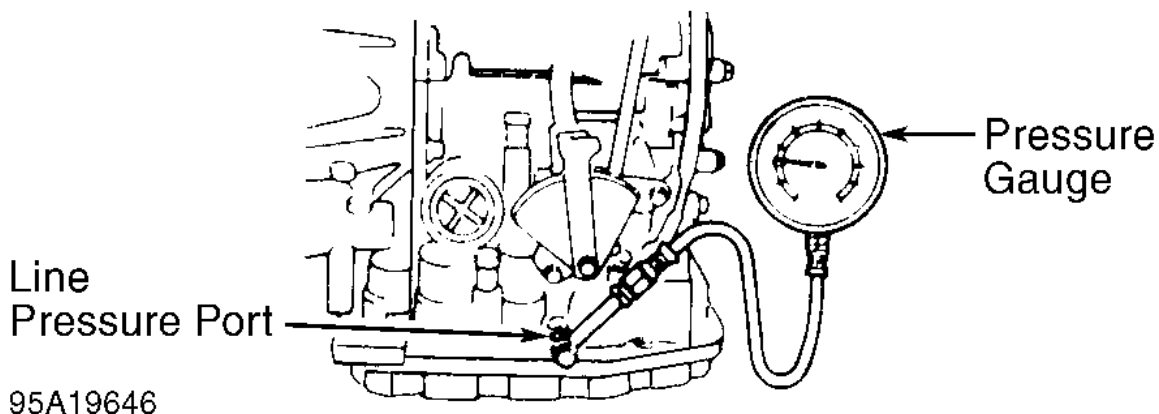

Fig. 5: Checking Governor & Line Pressure (A-241E & A-244E)
1. Remove appropriate transaxle plug and connect pressure gauge. See Fig. 5 . Block all wheels. Apply parking brake. Start engine and shift into "D" position.
2. Remove appropriate transaxle plug and connect pressure gauge. See Fig. 5. Start engine and shift vehicle into "D" position. Note governor pressure at specified speeds and engine RPM. See the GOVERNOR PRESSURE SPECIFICATIONS. Reading at 490 RPM can be taken with vehicle on safety stands.